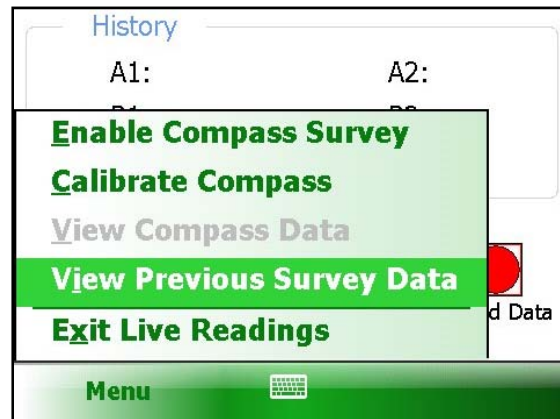

Figure 36- Menu option (Live Readings screen)
Figure 36 shows the available options from the Live Readings “Menu” item when a Digital Inclinometer/Compass probe is detected. These options are described below:
After typing in a command, tapping the “Return” (Enter) key will cause the command to be sent to the Remote Module. Figure 36 shows the response to a Firmware Version command (4).